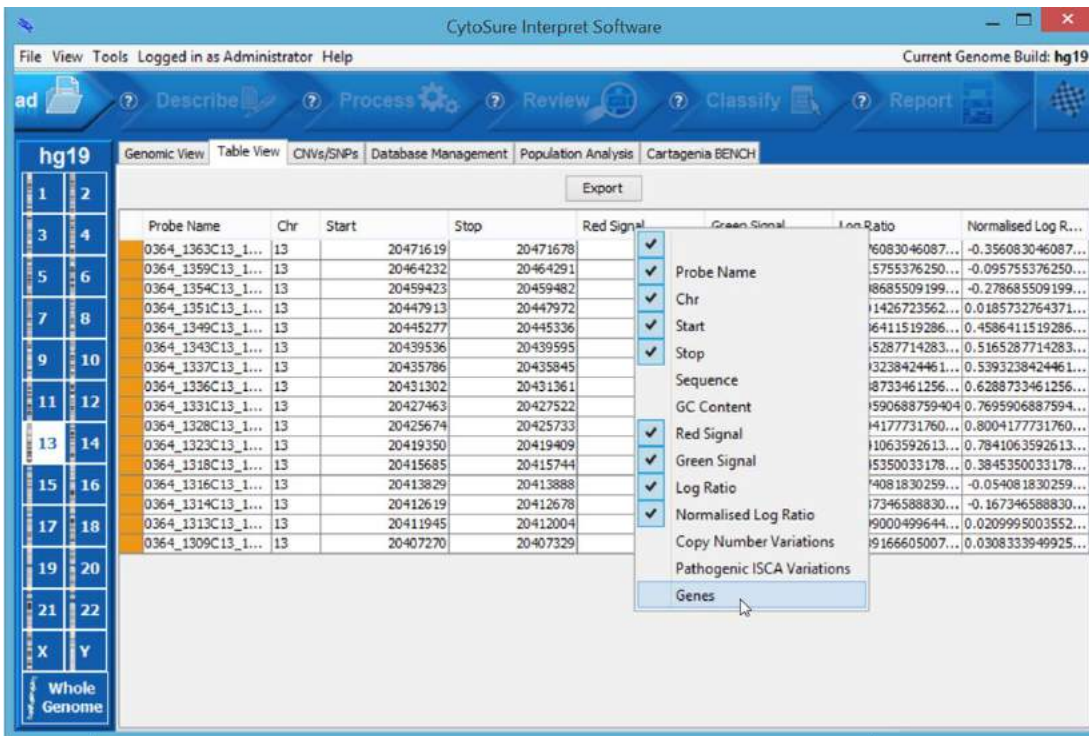

Figure 13: Adding annotation overlap information columns to the Table View.
2. In the **Table View** tab, right-click on the table header and select the required column from the pop-up menu displayed (Figure 13).